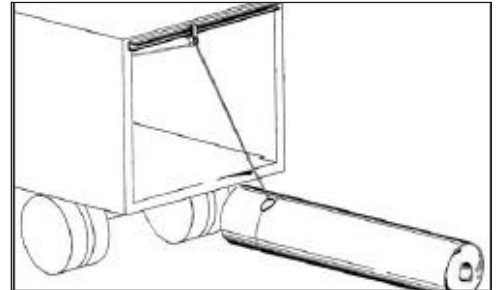

FIG. 2
3. Pull front end of roll until resting on back end of truck (Figure 2) . Do not use hooks, only rope or nylon strap lassos.